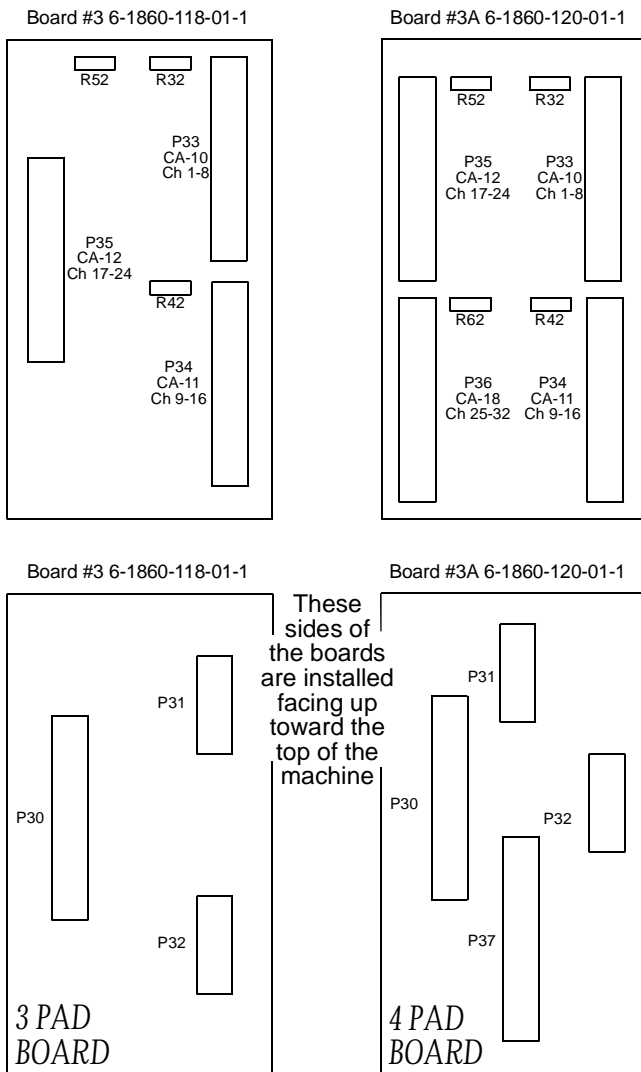

Figure 143: Location of Components and Adjustments
The thermocouples are processed through a sensor coprocessor board (Sensoray 7421). Depending on the OmniFlo™ System in operation, the board is either P/N 6-1860-118-01-1 or P/N 6-1860-120-01-1. There are three (3) visible pads on the 6-1860-118-01-1 board and four (4) visible pads on the 6-1860-120-01-1 board. For ease of reference in the adjustment procedure, the boards are referred to as "three pad" and "four pad" respectively. Refer to Figure 143.
Access the bottom side of the board through the computer cabinet by opening the rear doors at the Load End of the machine. The potentiometers that require adjustment are on the bottom side of the interface board. (The interface board is mounted on the cabinet's ceiling.) Refer to Figure 143 and 147 to note the location of the pots on the board.